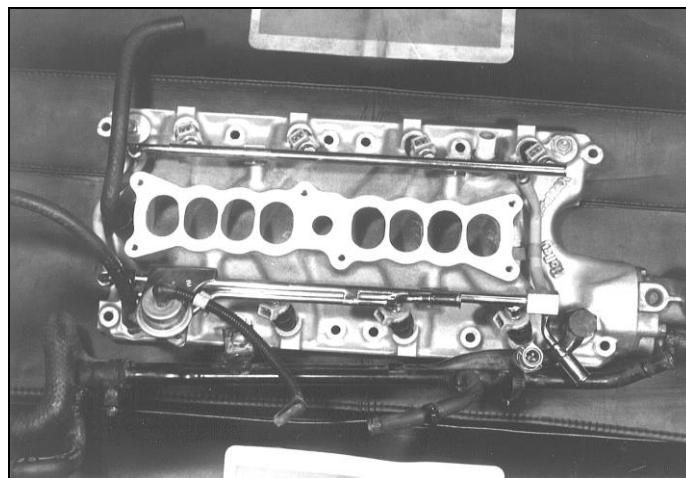

Figure 7
11. Install the water lines, sensors, fuel rails, and plugs that were removed from the old manifold. See Figure 7.